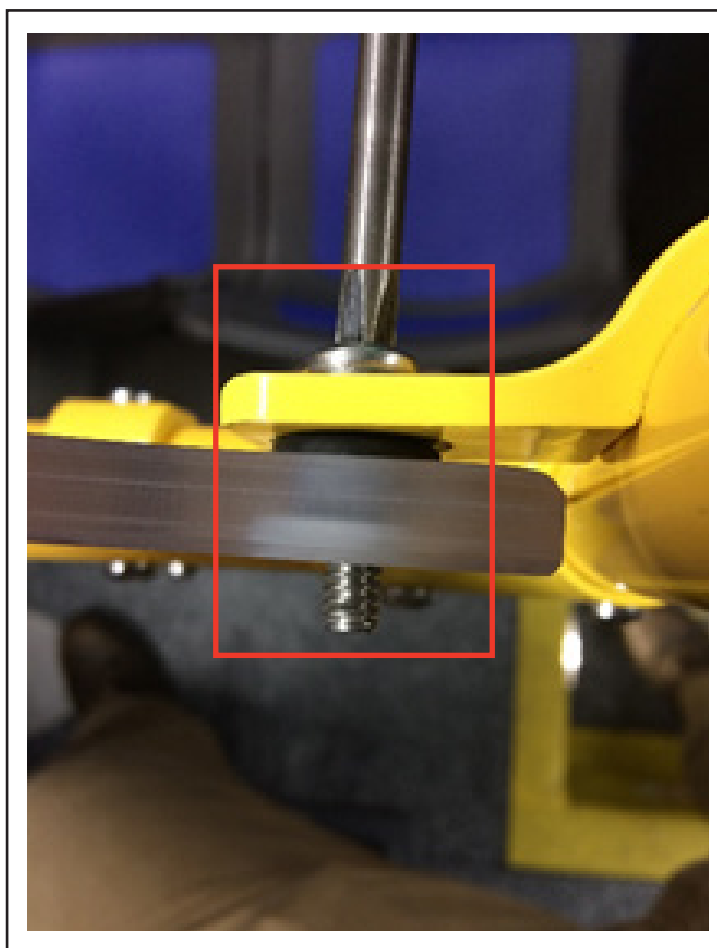

Figure 5 - Installation of Screw and Washer
- 1.8. Insert the new grommet P/N N67402 and install new screw P/N N15548 for all panels , reuse existing washers and nuts (see figure 5).